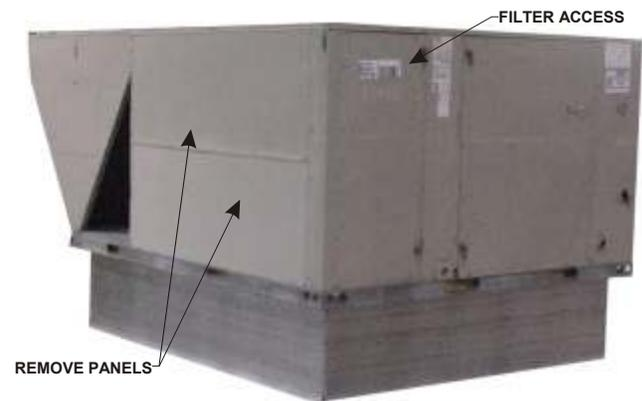

Figure 1
3. Remove the rooftop unit horizontal supply air and return air access panels. Also remove any hoods and/or power exhaust equipment. Discard hoods, power exhaust equipment, and horizontal supply and return air access panels. See Figure 1.